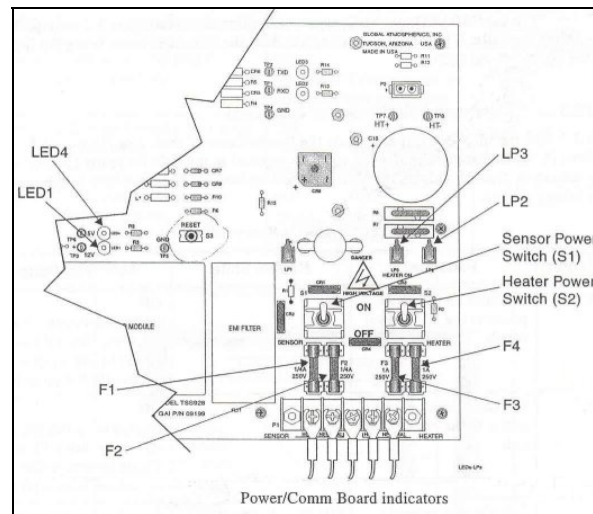

Figure 1-10. Power/Com Board Indicators
- n. Inspect Power/Comm Board indicators to that Figure 1-10 and Table 1-2. Replace sensor if indicators show abnormal state.